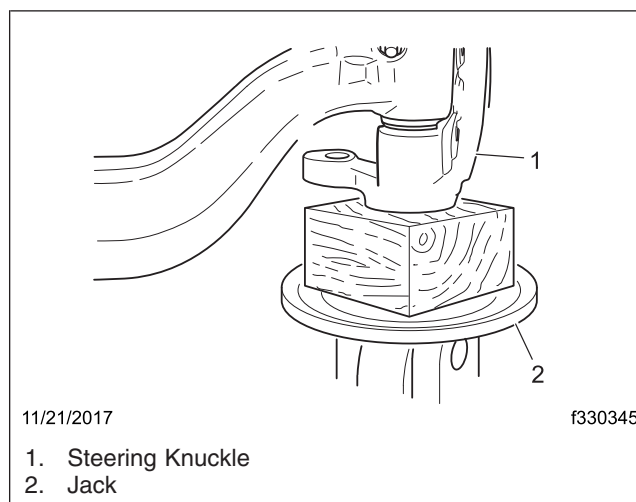

Fig. 22, Using a Jack to Simulate Axle Loading
28. Simulate axle loading with a jack and note the dial indicator reading. See Fig. 22.